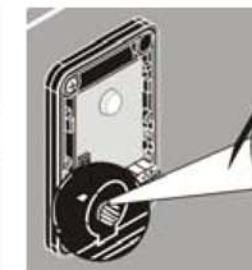

Fig. 12 / Bild. 12
- 8 - Use some silicon to seal the cable passage (Fig. 12),